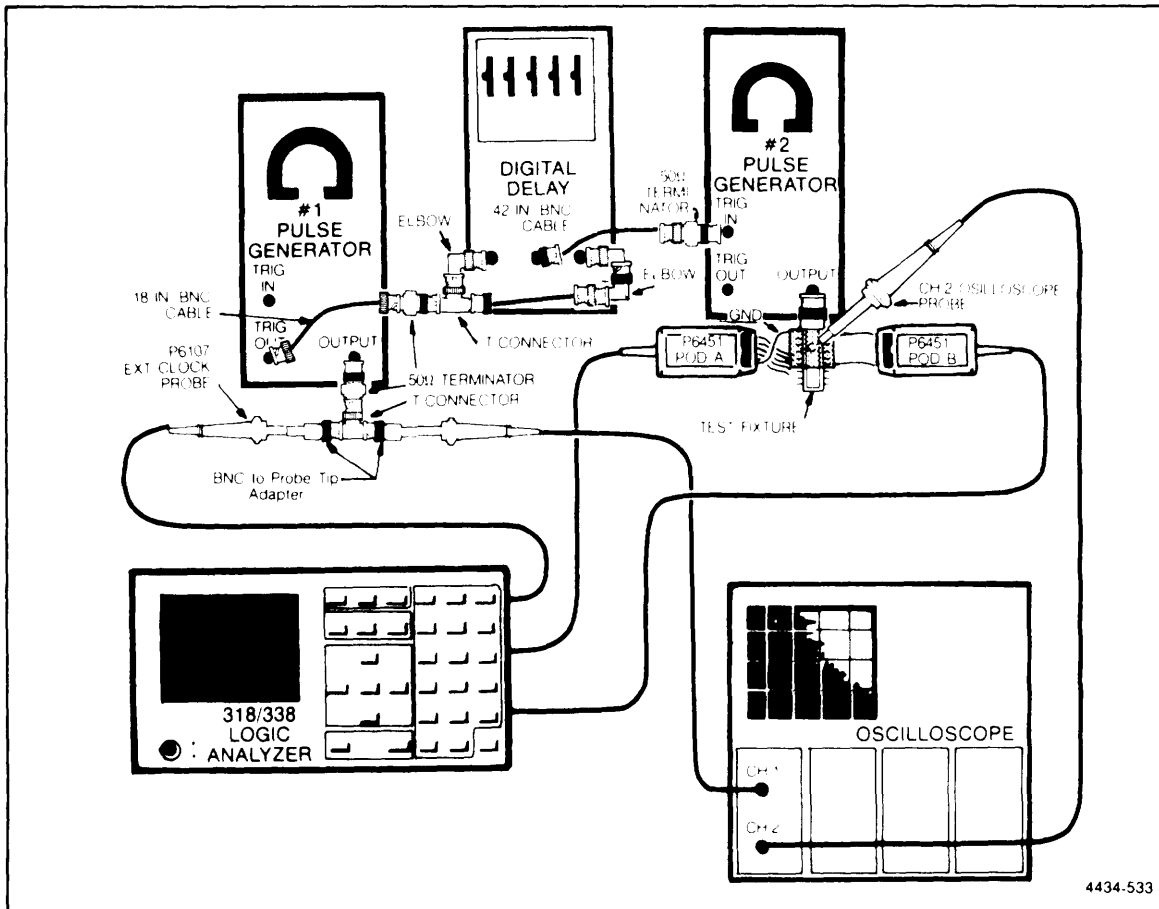

Figure 5-59. 338 Parallel data acquisition test setup.
Refer to Figures 5-59, 5-60, and 5-61.
3. Connect a BNC elbow to the Digital Delay's EVENTS INPUT. Connect a BNC T-connector to the elbow. Connect one side of the T-connector to the #1 pulse generator's + TRIG OUT using an 18 inch BNC cable and a 50 Ω terminator. Connect the other side of the Digital Delay's BNC T-connector to the Digital Delay's START INPUT (see Figure 5-59). Using 2 BNC elbows and a BNC female-to-female connector will help here.